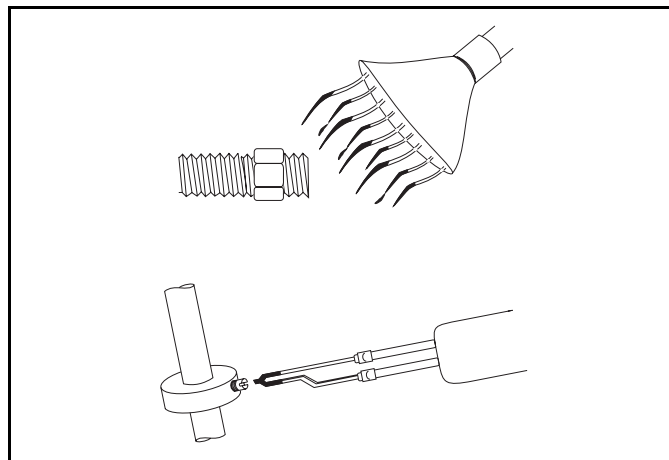

FIGURE 5 (MSSM0101CE)
1. Apply localized heat to fastener as shown in FIGURE 5.